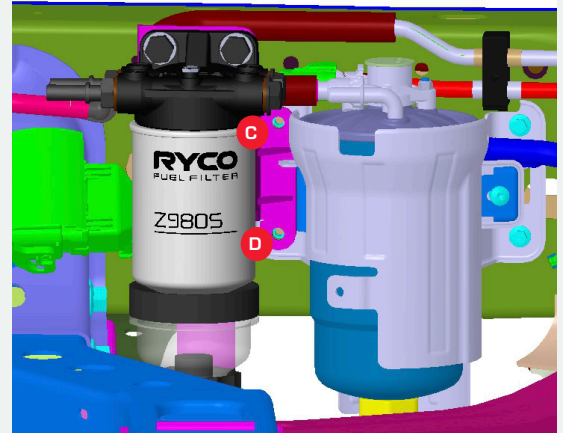

FIGURE 5
- 4 Position the bracket on the left hand place of the OE filter bracket as per FIG. 5, placing point C at the top OE filter bracket holes, placing point D at the bottom place of the OE filter bracket.
- 5 Refit the factory M6 bolts at point C & point D onto the OE Filter bracket as per FIG. 5.